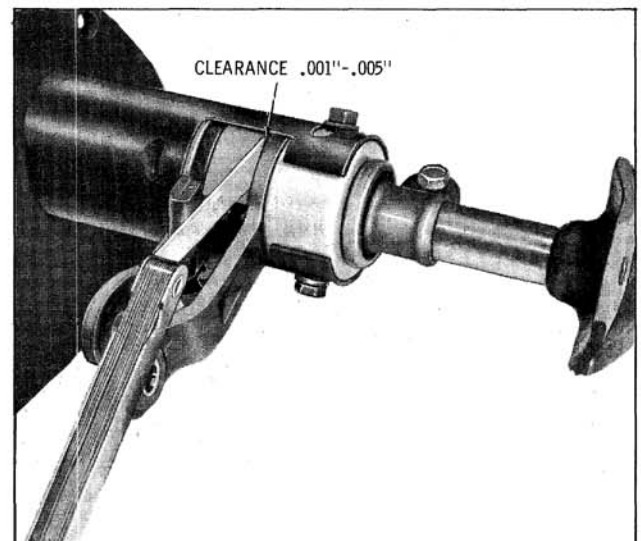

Fig. 8-93 Shift Lever Clearance
5. Elongated slots in the mast jacket allow the lower bearing to rotate to obtain shift lever clearance, loosen screw and adjust as necessary. (Fig. 8-93)